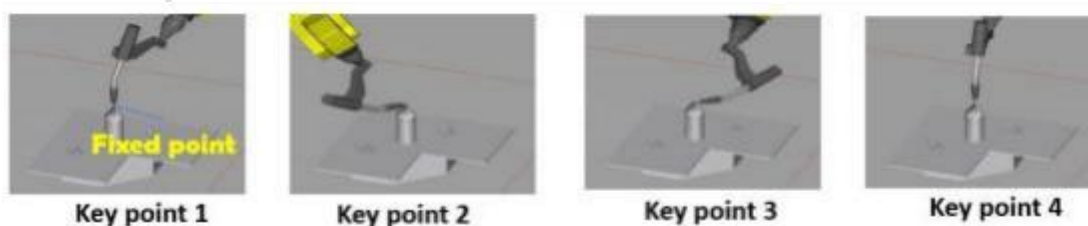

Figure 2.6 The sharp cone end of the workpiece is used as the reference point to establish the tool coordinate system
(1) Find a very accurate fixed point (the sharp cone end of the workpiece) within the working range of the robot as the reference point.
(2) Manually teach the robot, and use different tool postures to just touch the TCP of the robot tool with the reference point as far as possible, as shown in Figure 2.6.
(3) Through the 6-joint data of the robot flange position in four different postures of key point 1-key point 4, the system can automatically calculate the TCP data.
(4) The system records TCP data and constructs the conversion relationship between tool coordinate system, flange coordinate system and base coordinate system.